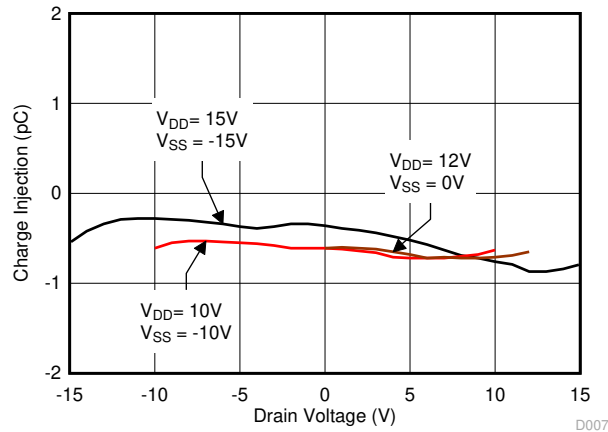

Figure 7-15. Charge Injection vs Drain Voltage
The TMUX6136 utilizes special charge-injection cancellation circuitry that reduces the drain (D)-to-source (Sx) charge injection to as low as -0.4 pC at $V_S = 0 \text{ V}$, as shown in Figure 7-15.